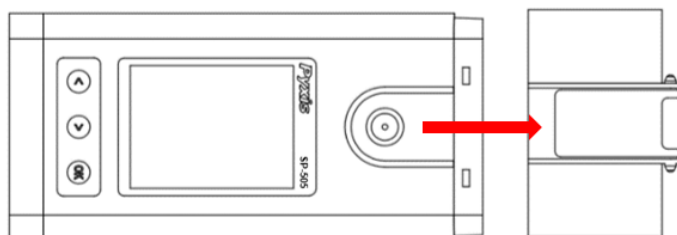

Figure 65.
6. Attach the new pH/ORP module to the main module as shown in Figure 65.